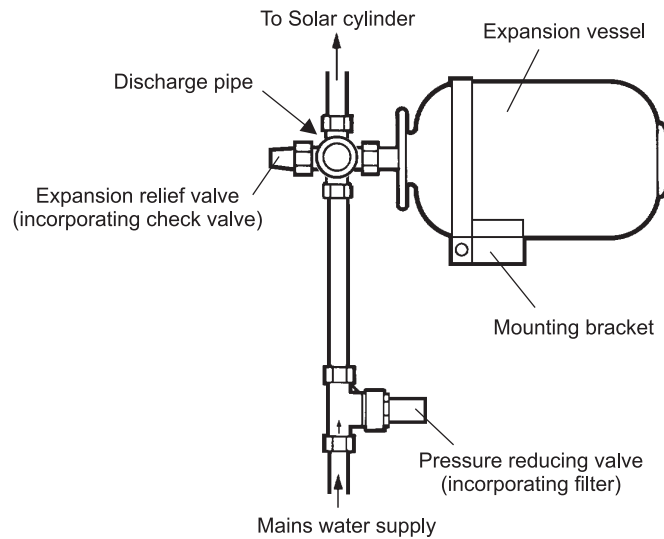

Fig. 13
4.6 FIT THE UNVENTED KIT - Fig. 13
4. Connect the expansion relief valve to the expansion vessel as shown in Fig. 13.